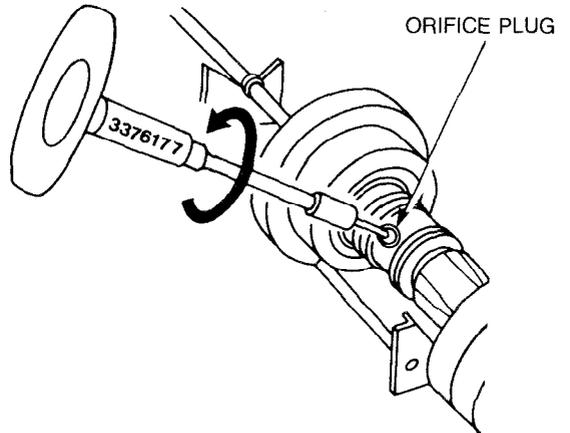

Figure 130 — Orifice Plug — Removal
- t. Raise the locking lever handle to stop the main drive, then using the injector orifice torque wrench 3376177 (see Fig. 130) loosen and remove the orifice plug.